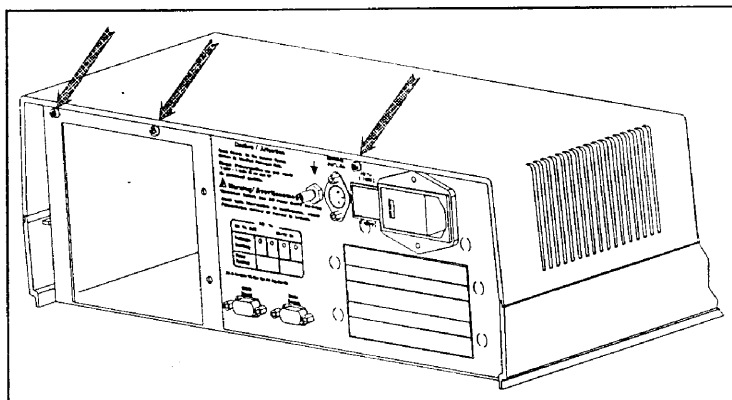

Figure 7-10. Opening and Removing the Top Cover Assembly.
9. Remove the three screws from the rear panel as shown in Figure 7-10.